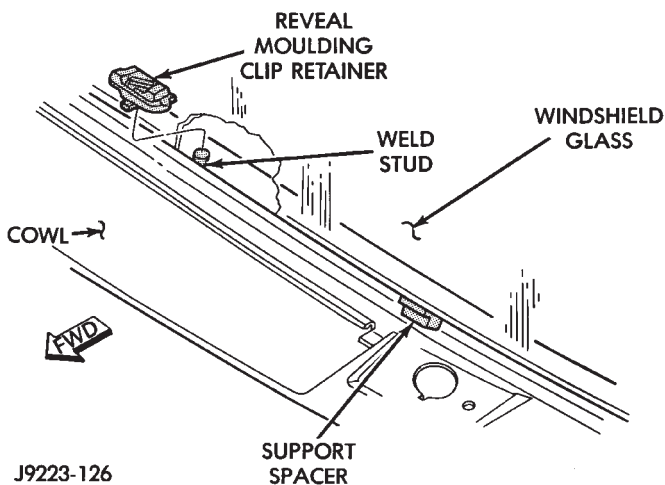

Fig. 12 Reveal Moulding Clip
(2) Inspect urethane bead for high spots. Level bead by shaving off high spots with a razor knife.
(3) Inspect the reveal moulding retainer clips. Replace any broken, or loose clips (Fig. 12).
- (3) Inspect and replace any reveal moulding clips if bent, distorted, broken or loose (Fig. 12).